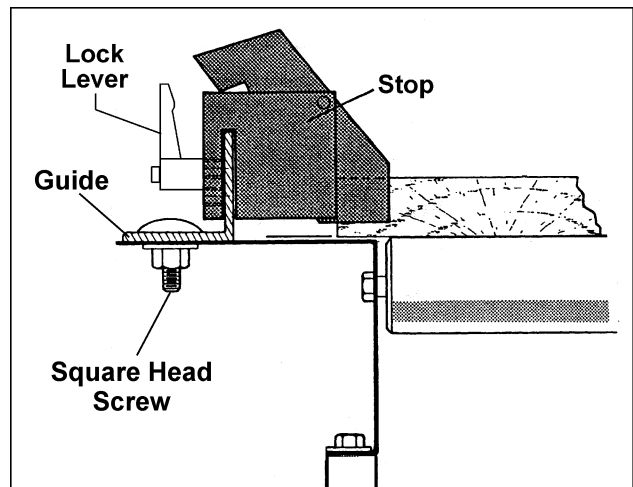

FIGURE 13
1. The 8-foot table comes with a guide and scale. The guide should be mounted to the edge of the table with six M8 x 27 square head bolts, six M8 flat washers and six M8 hex nuts (Fig. 13).
2. Attach the three stops to the 8-foot table guide (Fig. 13). These stops can be slid to any point along the guide and secured by tightening the lock levers.